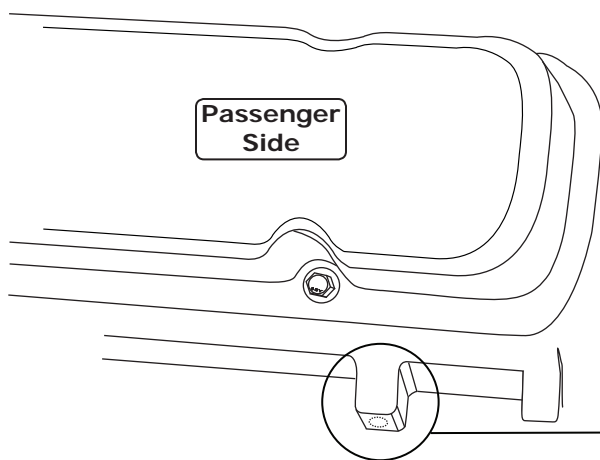

Figure 7
1. On some engines, the oil dipstick is located on the passenger side, behind the compressor. In such cases, install the provided support bracket as shown in Figure 7 and Photo 3, below. **NOTE: The dipstick support bracket mounts to the 3/8" bolt hole in the passenger side cylinder head mounting boss that is present on most engines. If there is no boss present, it will be necessary to make other provisions to secure the dipstick.**